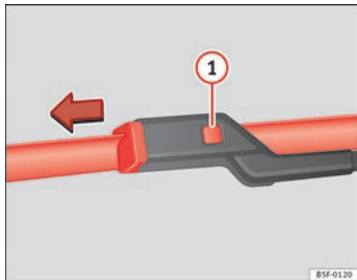

Fig. 113 Changing the windscreen wiper blades
- Hold down the release button ⇒ Fig. 113 ① while gently pulling the blade in the direction of the arrow.